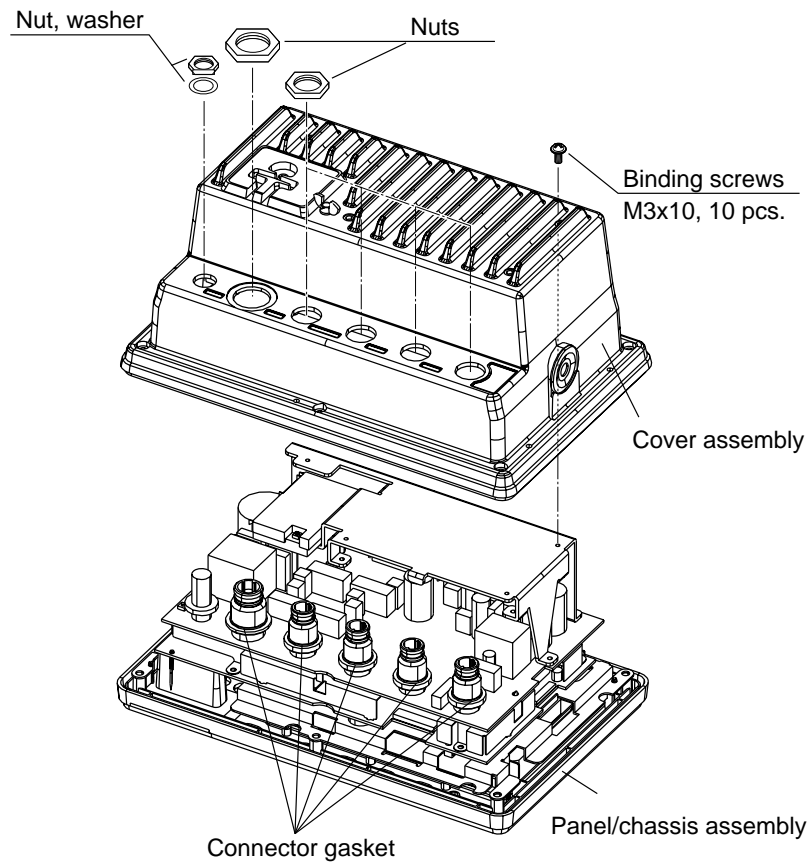

Figure 3-15 Removing cover assembly
- On ANLG Board: Connector gasket (See Figure 3-15.)